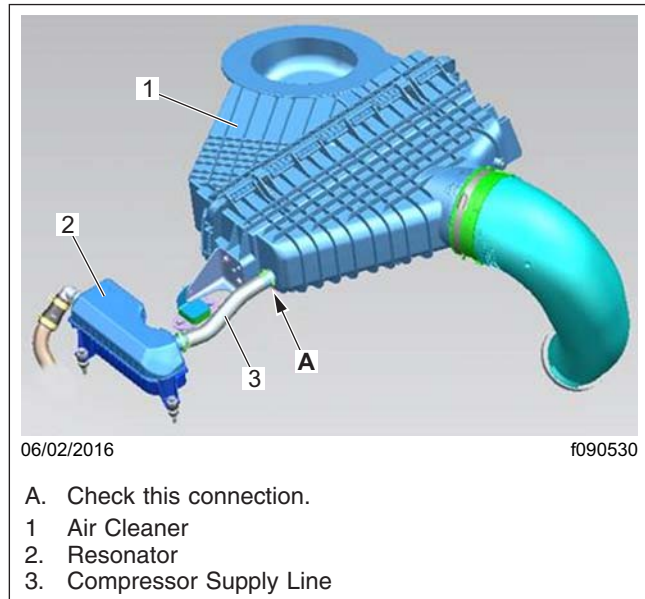

Fig. 5, Compressor Supply Line Quick Connect
5. Check that the quick connect fitting for the air compressor supply line is fully engaged with the air cleaner. See Fig. 5.